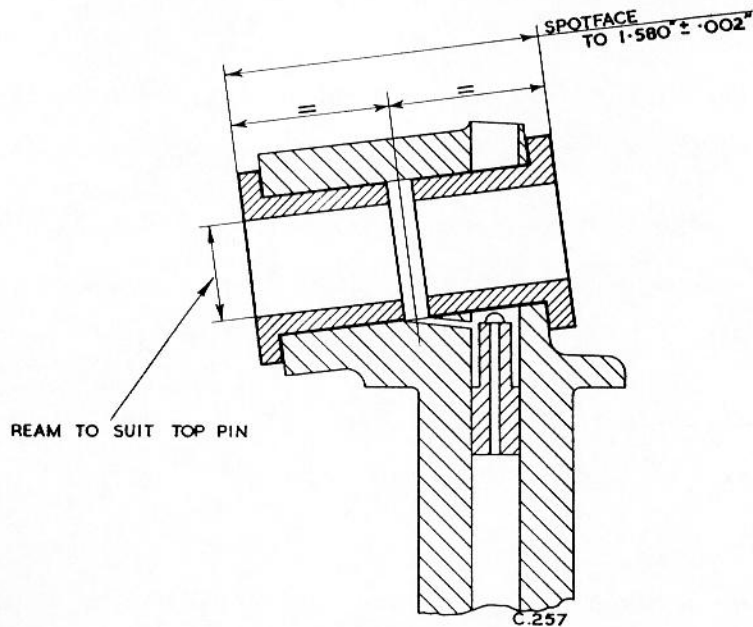

Fig. 10 Overall dimension of swivel pin bushes.
5. Using a suitable facing cutter, spot face both bushes in position to the dimensions given in Fig. 10.